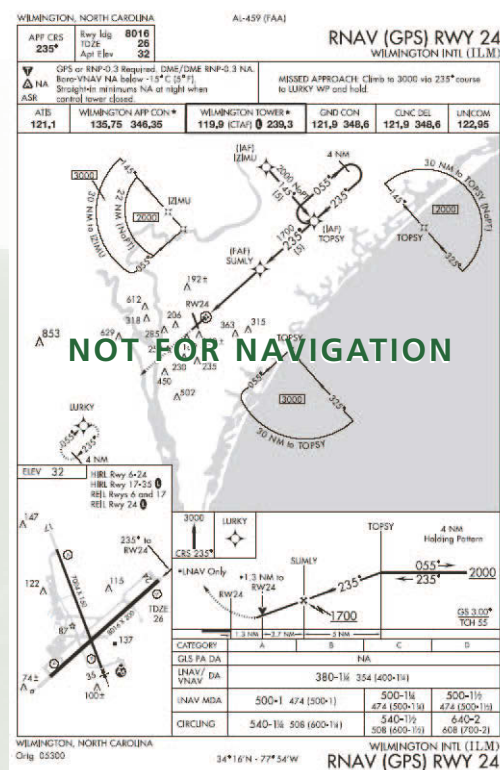

Figure 3
assume a "Y", "L" or "I" shape (see *Figure 3*). The approach will typically have one to three IAFs; an intermediate fix (IF), which will also serve as one of the IAFs; a final approach fix (FAF); a missed approach waypoint (MAWP), which will be typically located at the runway threshold; and a missed approach holding point (MAHP). All the waypoints on the approach, except the MAWP, if collocated with the runway threshold, will be given a "pronounceable" 5-letter name which will be in your FMS database. The IAFs are typically aligned in a straight line, perpendicular to the final approach course, thus forming a "T". The initial segment is normally 3 – 6 nm in length; the intermediate segment is typically 5 – 7 nm long; and the final segment is typically 5 nm long with the actual lengths of each segment being dependant upon the surrounding obstacles / restrictions and the highest category of aircraft normally expected to use the procedure.